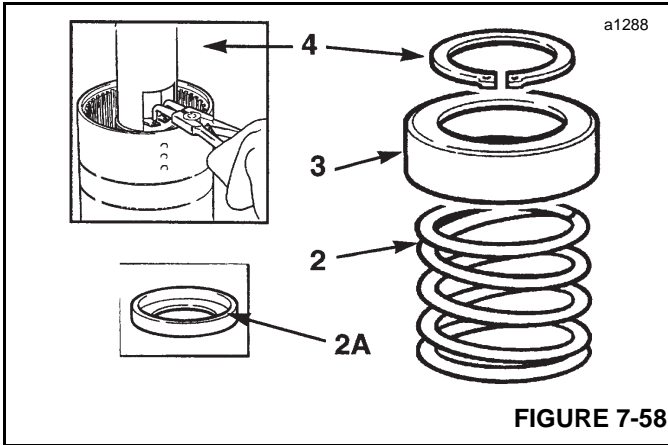

FIGURE 7-58
2. Install piston spring (2, Figure 7-58). Make sure the spring seats in the piston.
3. Install spring retainer plate (3).
4. Compress the spring and secure with retaining ring (4).